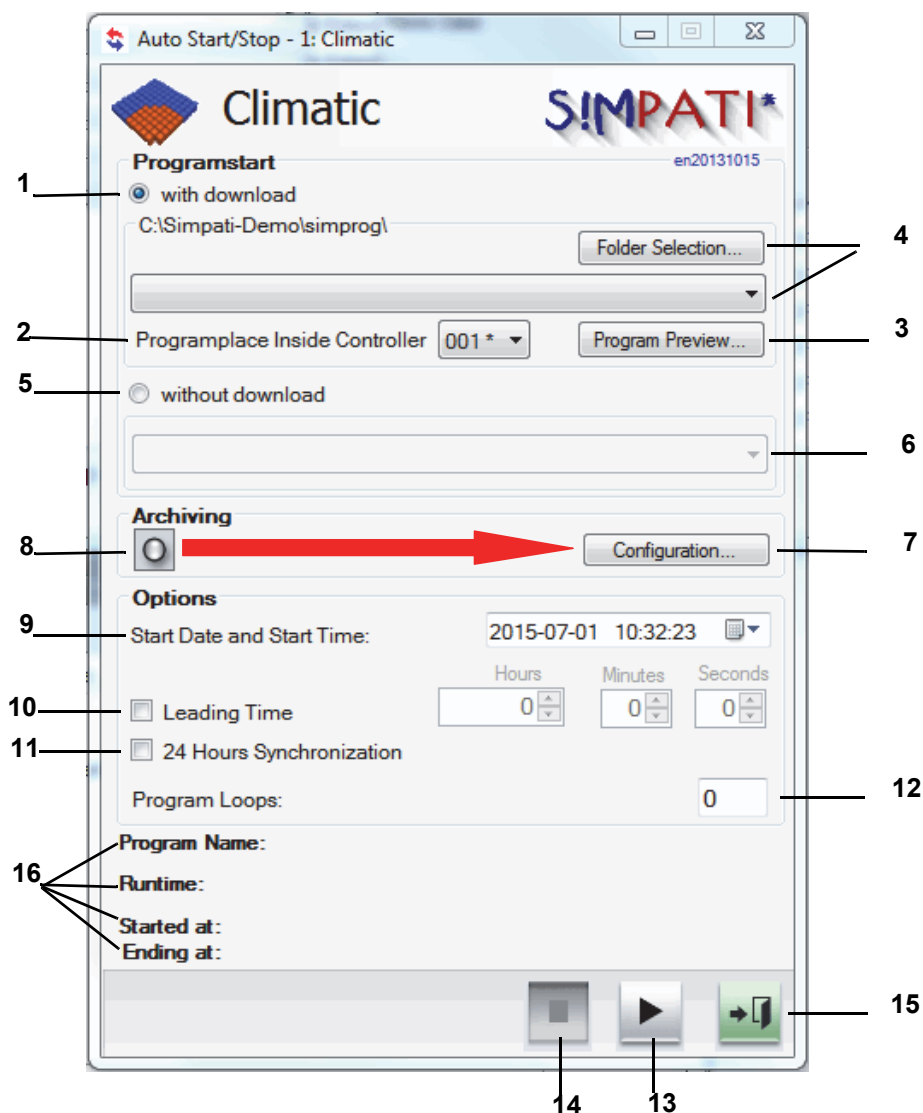

Fig. 10-1: Start/stop test program
If you have not yet uploaded the current test program version to the chamber's controller, you can do this at the start of the test via the function described in → Fig. 10-1: »Start/stop test program« (page 153).
- 8 Archive name as specified under → Fig. 10-1: (page 153) (the start date is used if no name is specified).